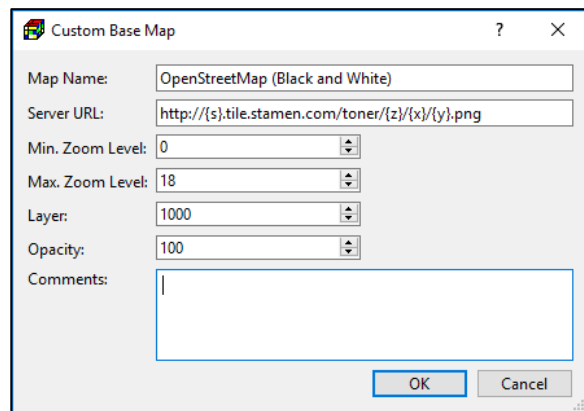

Figure 6. The Custom Base Map dialog box
2. **Add:** Click this button to open the Custom Base Map dialog box (Figure 6) that allows you to add a tiled-map service.